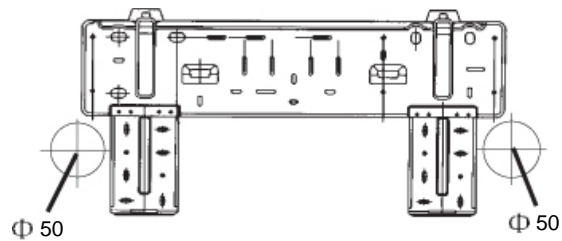

Fig. 1
1. Make the piping hole ($\Phi 50$) in the wall at a slight downward slant to the out door side. (Shown in Fig. 1)